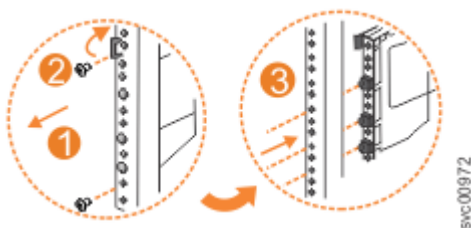

Figure 122. Remove the rail assembly from the front frame bracket
1. Remove the two screws that attach the outer rail section to the front bracket assembly, as shown in Figure 122 on page 188.
2. Remove the rail section by pulling it away from the front bracket, as shown in Figure 122 on page 188.